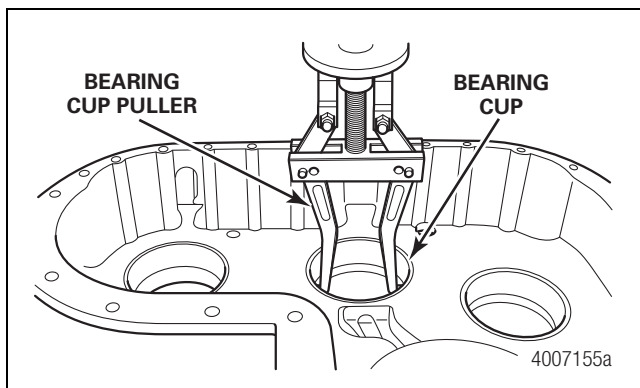

Figure 4.30
2. Use a suitable puller to remove the bearing cups from the transfer case half. Figure 4.30.